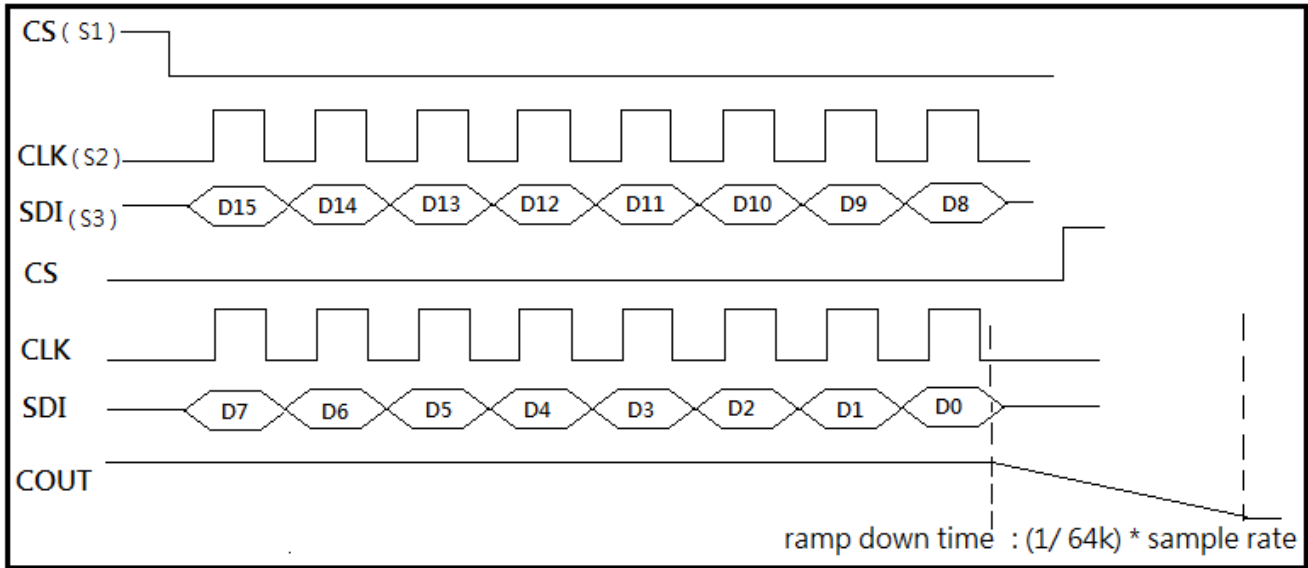

Fig. 10 Power-down commands timing
5. Power-down with RAMP-DOWN (PD2:B8xxh) or without RAMP-DOWN (PD1:B4xxh) (Fig. 10)